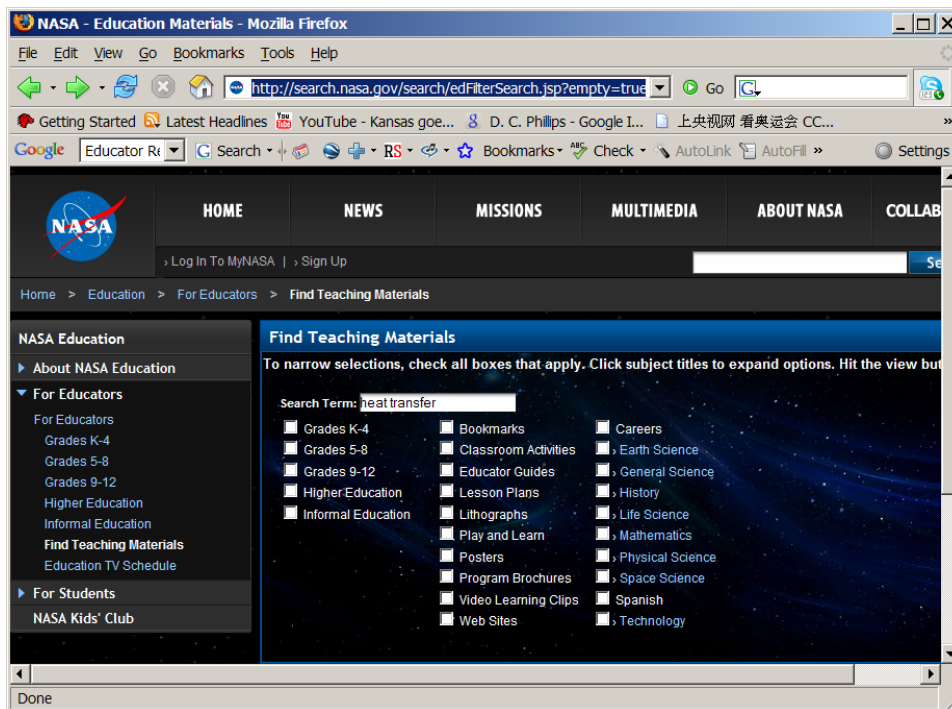

Figure 9A. NASA search engine for educational materials.
- NASA Educational Materials: Search engine for STEM Teaching Materials, such as Engineering Challenges (*Figure 9A*), etc. (<http://search.nasa.gov/search/edFilterSearch.jsp?empty=true>).